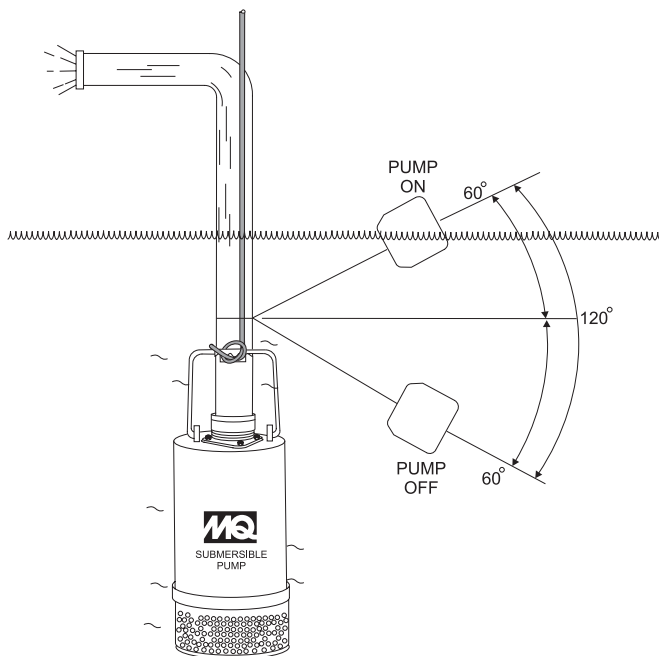
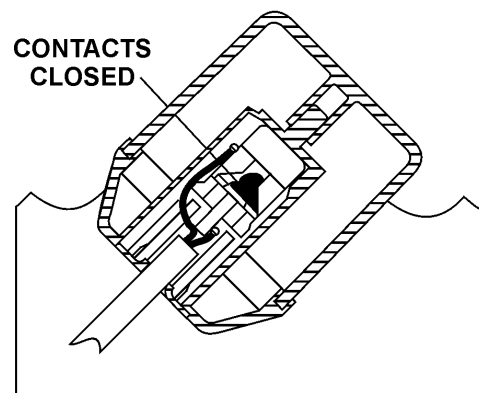
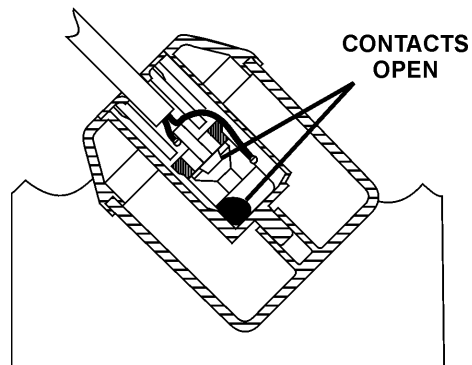

Figure 3. Pumping Range (Float Switch)
Figure 4. Float Switch (Closed)
Figure 5. Float Switch (Open)
There is a tilt-sensitive mercury switch hermetically sealed within each float. As the liquid level (water) rises or falls, the float changes its angle until the mercury switch makes (close, Figure 4) or breaks (open, Figure 5) the circuit. Maximum pumping range is 120 degrees. See Figure 3 below.
3. Secure the clamp to the discharge hose as shown in Figure 5. **DO NOT** install cord under hose clamp.
3. Determine the length of the float switch wires, then secure float switch wires to pump discharge hose. See Figures 3 and 6 and Table 3 to determine the pumping range.